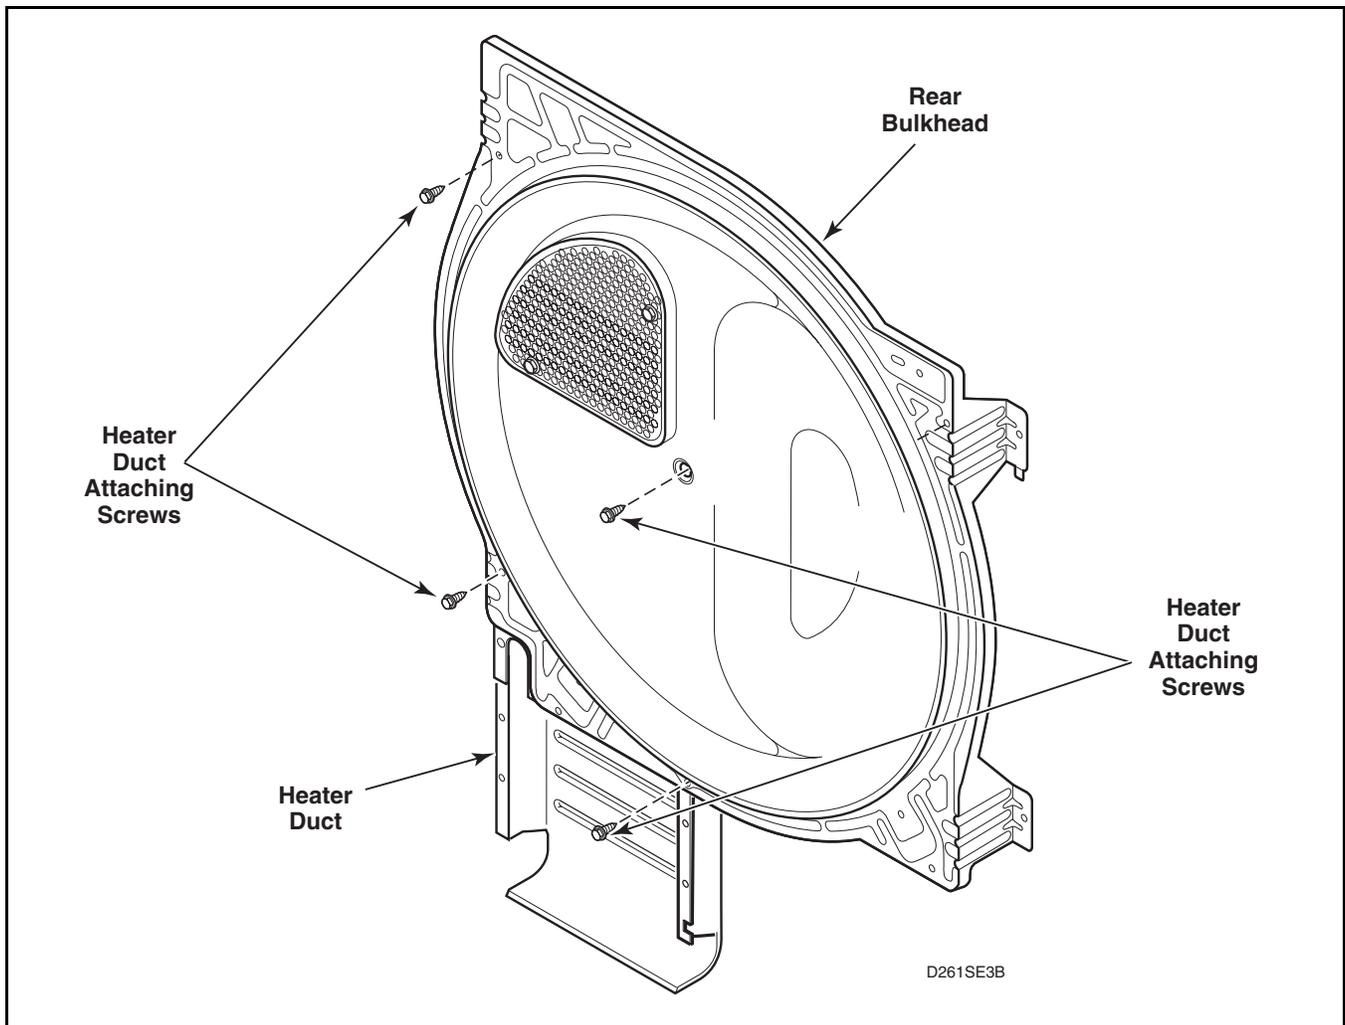

Figure 38
- l. Remove heater duct from rear bulkhead. Refer to *Figure 38*.